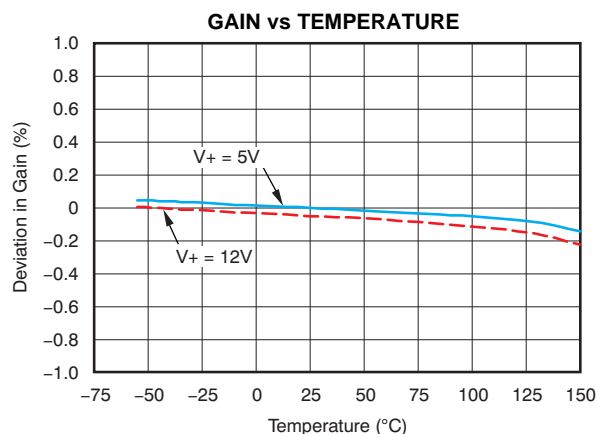

Figure 25.
(5) See typical characteristic graph Figure 25.